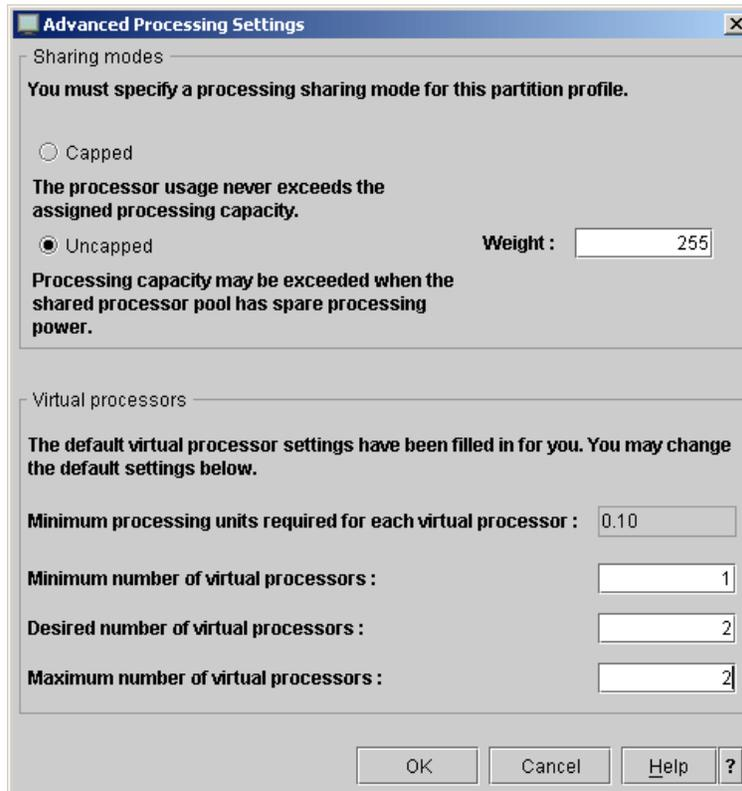

Figure 3-9 Processing sharing mode and the virtual processor settings
- Specify the processing sharing mode and the virtual processor settings, as shown in Figure 3-9, by clicking the **Advanced** button. Click **OK** when you have completed the settings.